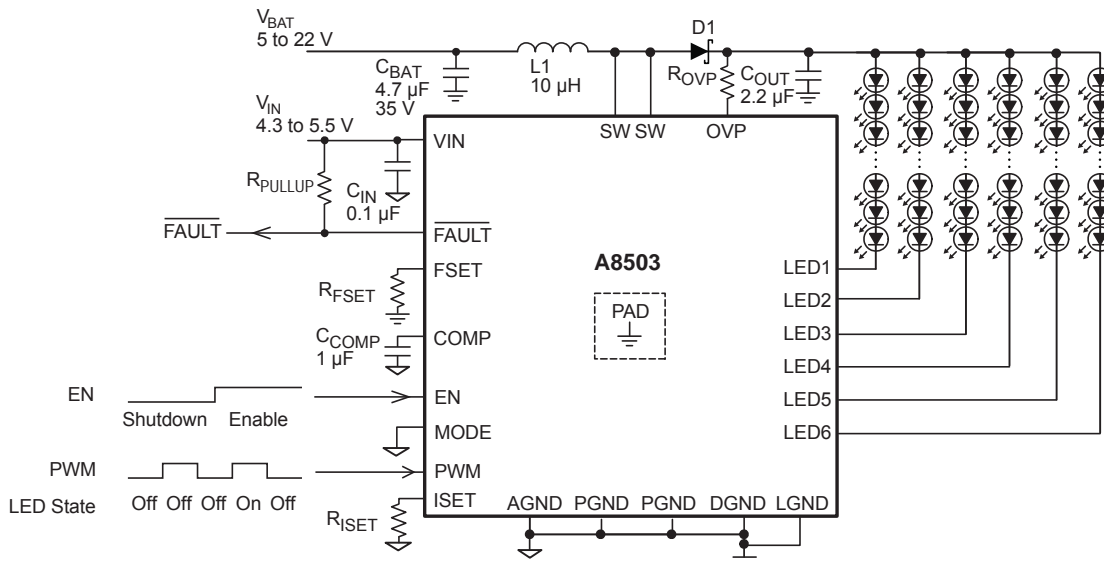

Figure 1. Typical application circuit
**ELECTRICAL CHARACTERISTICS1** Valid using circuit shown in figure 1,  $T_A = T_J = 25^\circ\text{C}$  except • indicates specifications guaranteed from  $-40^\circ\text{C}$  to  $105^\circ\text{C}$ ,  $V_{IN} = 5.0\text{ V}$ ,  $EN = \text{PWM} = V_{IH}$ ,  $R_{ISET} = 12.4\text{ k}\Omega$ ,  $R_{FSET} = 34\text{ k}\Omega$ ,  $\text{MODE} = \text{AGND}$ , unless otherwise noted
**ELECTRICAL CHARACTERISTICS1** (continued) Valid using circuit shown in figure 1,  $T_A = T_J = 25^\circ\text{C}$  except • indicates specifications guaranteed from  $-40^\circ\text{C}$  to  $105^\circ\text{C}$ ,  $V_{IN} = 5.0\text{ V}$ ,  $\text{EN} = \text{PWM} = V_{IH}$ ,  $R_{ISET} = 12.4\text{ k}\Omega$ ,  $R_{FSET} = 34\text{ k}\Omega$ ,  $\text{MODE} = \text{AGND}$ , unless otherwise noted